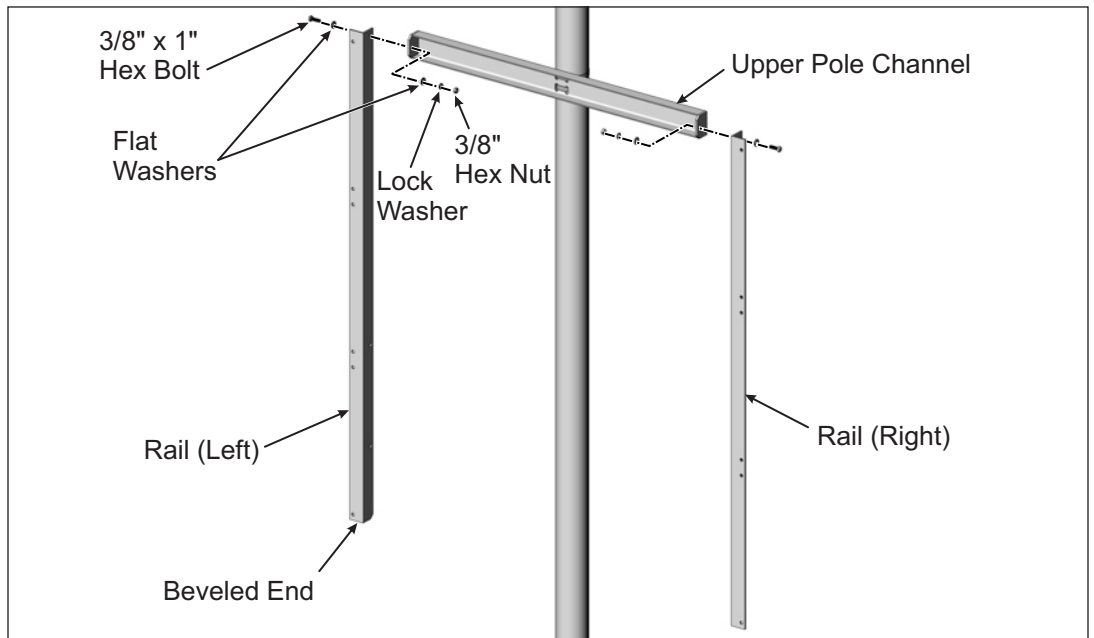

Figure 3-1: Attaching Rails to Pole Channel
The two Module Rails are attached to the ends of the upper Pole Channel using 3/8" x 1" hex bolts and hardware. (See Figure 3-1)
- A. Orient and align the left Module Rail as shown in Figure 3-1. Secure with one 3/8" x 1" hex bolt, lock washer, flat washers and Hex Nut. Finger tighten for now.
- A. Place the Module on the Module Rails. While one person holds the Module in place, align the mounting holes and secure with 1/4" x 3/4" bolts and hardware. Each Module has four attachment points. **Torque to 6-8 ft.-lbs.** (See Figure 3-1)